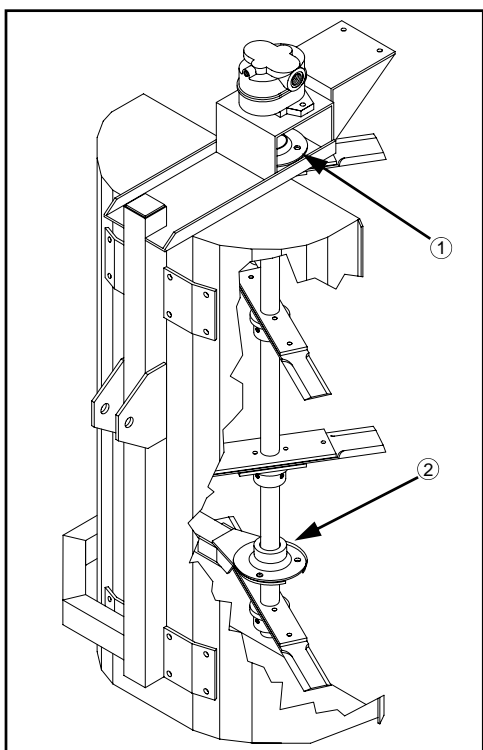

FIG 5.8
Grease both upper (fig. 5.8, item 1) and lower (fig. 5.8, item 2) shaft bearings 4 times a day. Suggested times are morning, mid-morning, noon, and mid-afternoon.